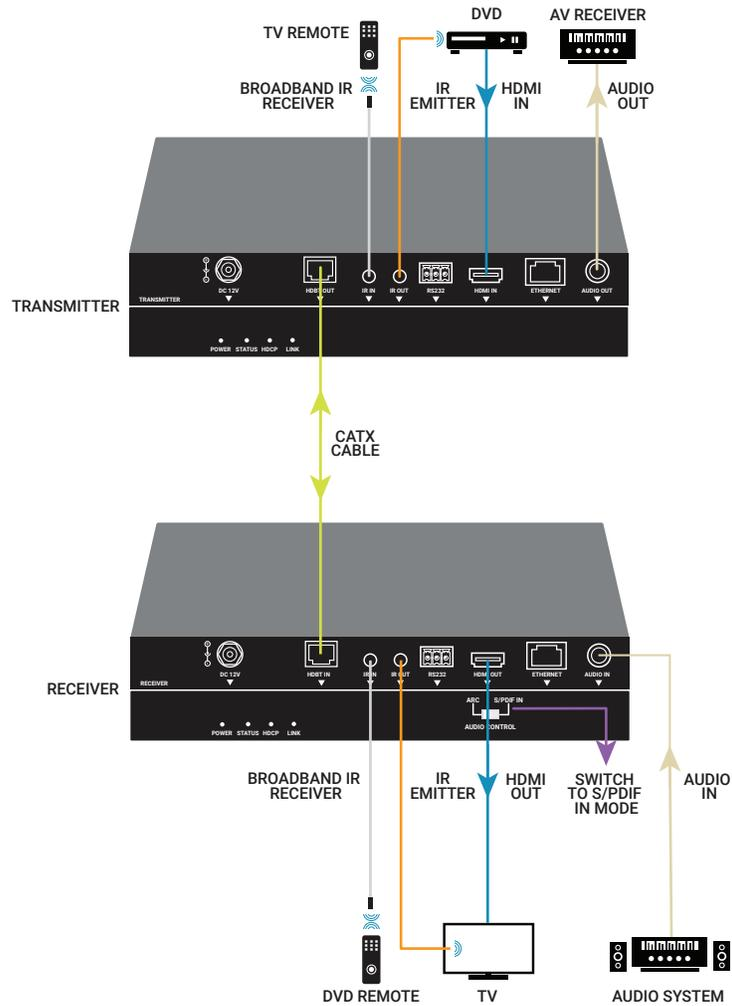

FIGURE 3-2. CONFIGURE S/PDIF
- ♦ When you configure the auxiliary S/PDIF input, switch it to S/PDIF mode and connect an audio system to the AUDIO IN port of the receiver. See Figure 3-2.